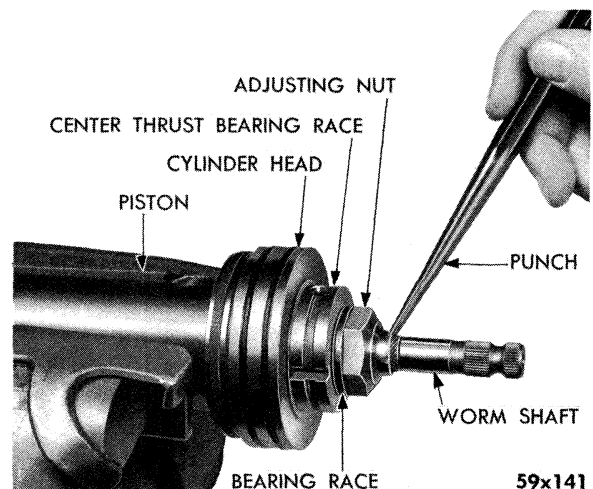

Fig. 114 — Staking Worm Shaft Bearing Adjusting Nut
- (c) Using a standard drift, having a flat point  $\frac{1}{4}$ " in diameter and with a sharp blow of a hammer, force the flanged section of the nut into the knurled section of the worm, as shown in Figure 114. The drift should be held on the centerline of the worm and perpendicular to the worm, but at a slight angle to the flange of the nut. The operation of seating the flange of the nut into the knurled section of the worm should be performed at a minimum of four locations spaced at approximately 90°. It is the first crimp that establishes the preload. It is advisable to check the 8 to 16 inch ounces preload after the first crimping operation is performed. If the preload has changed and is either too tight or too loose, it may be corrected by striking the No. 1 crimp a glancing blow in the right direction to either tighten or loosen the nut. When the center race torque is correct after the No. 1 crimp, the other 3 crimps may be completed with very little effect on the preload. The adequacy of the crimping should be checked by torquing the nut in either direction to 20 foot-pounds. If the center race torque remains unchanged, the crimping operation is considered satisfactory.